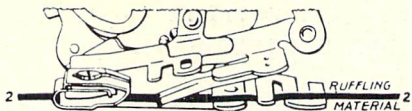

Fig. 63. Correct Position for Material to be Ruffled.
3. Insert material to be ruffled between two blue blades and under separator guide (Line 2, Fig. 63).